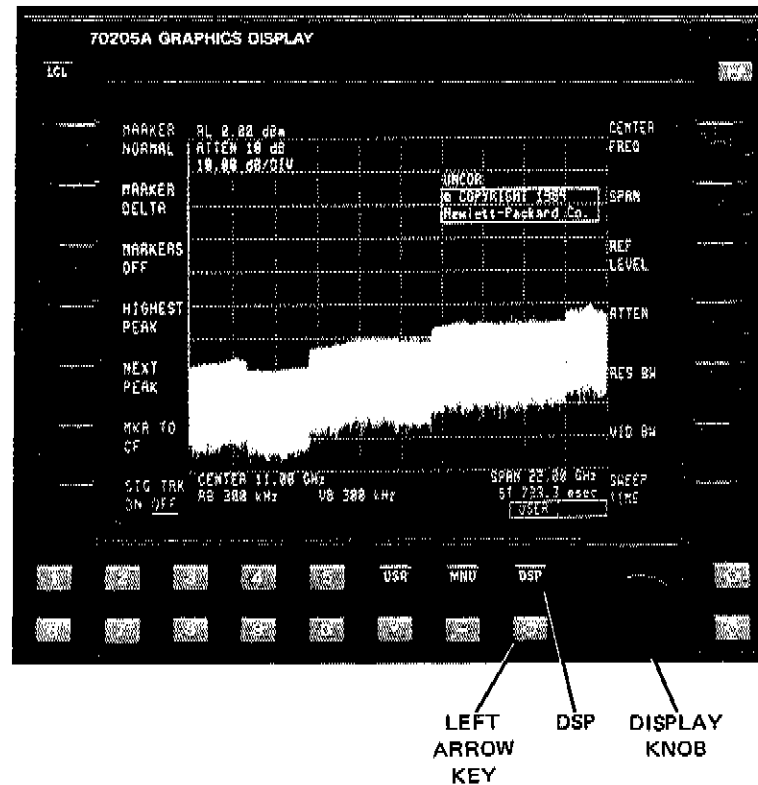

Figure 11. Keyboard with User Screen.
- b. When the User Screen (Figure 11) appears, press the DISPLAY hard key.
- e. Once this adjustment procedure is completed, press the left arrow key (refer to Figure 11) to return to the main menu.
- c. Once the adjustment procedure is completed, press the left arrow key (refer to Figure 11) to return to the main menu.
- b. Press the left arrow key (refer to Figure 11 for location).
- d. Once this adjustment procedure is completed, press the left arrow key (refer to Figure 11) to return to the main menu.
- d. Once this adjustment procedure is completed, press the left arrow key to return to main menu (see Figure 11).
11. Press **LINE** switch **OFF** (0), disconnect power cord, and disconnect and remove Module Extender (HP Part Number 70001-60013).